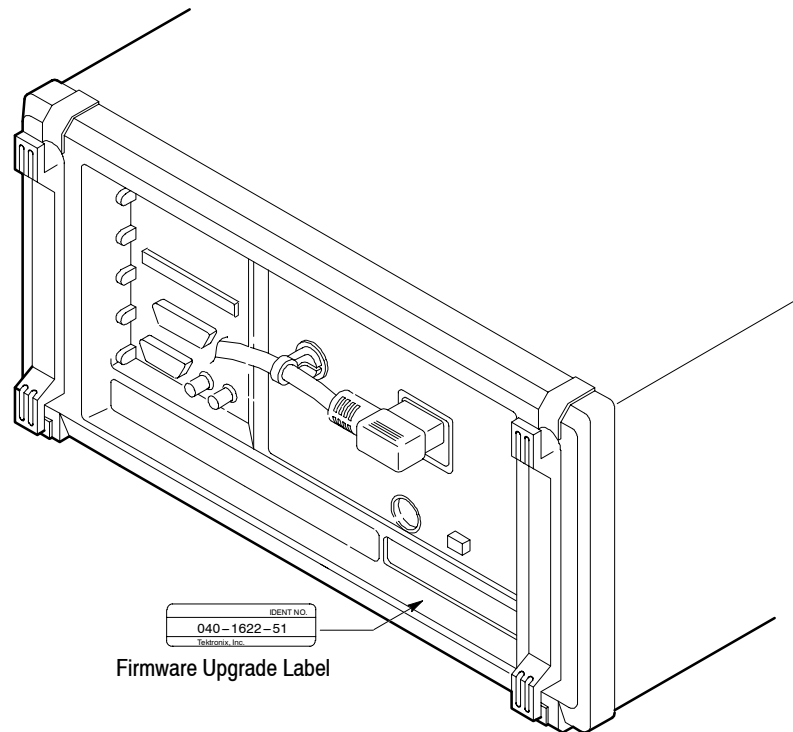

Figure 6: Firmware upgrade label pasting
2. Remove the protective backing from the 040-1662-51 kit label (4) and place it on the rear cover of the DG2030 as shown in Figure 6.